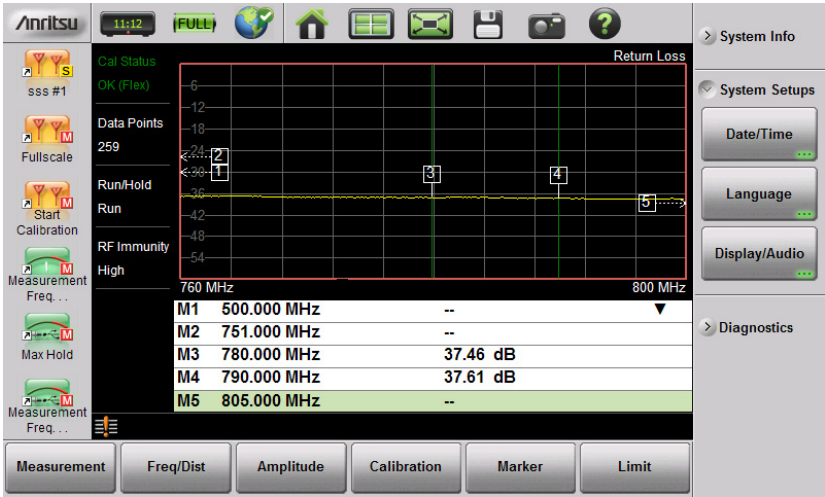

Figure 3-23. Markers 1, 2, and 5 are Out of Range
- If the frequency (F1 or F2) or distance (D1 and D2) parameters are moved inside a current marker location, then the out of range (---> or <----) indicator is displayed, and marker values in the Table are blanked (--). See Figure 3-23 for an example of markers beyond the current span.